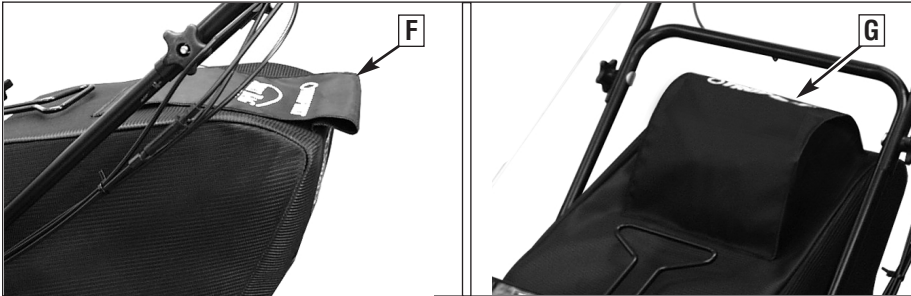

Figure 4-3: GrassGauge™ indicates when bag is full (F) and not full (G).
The Grass Catcher also has a GrassGauge™ grass-fill indicator (Figure 4-3) which makes it easy to tell when the bag is full. The indicator is a rectangular piece of cloth sewn to the top of the bag. The indicator lays flat against the bag when the bag is full (F, Figure 4-3) and billows (G) when the bag is not full.
1. When mowing, the Grass Catcher is full when the grass fill indicator lays flat against the bag (F, Figure 4-3).